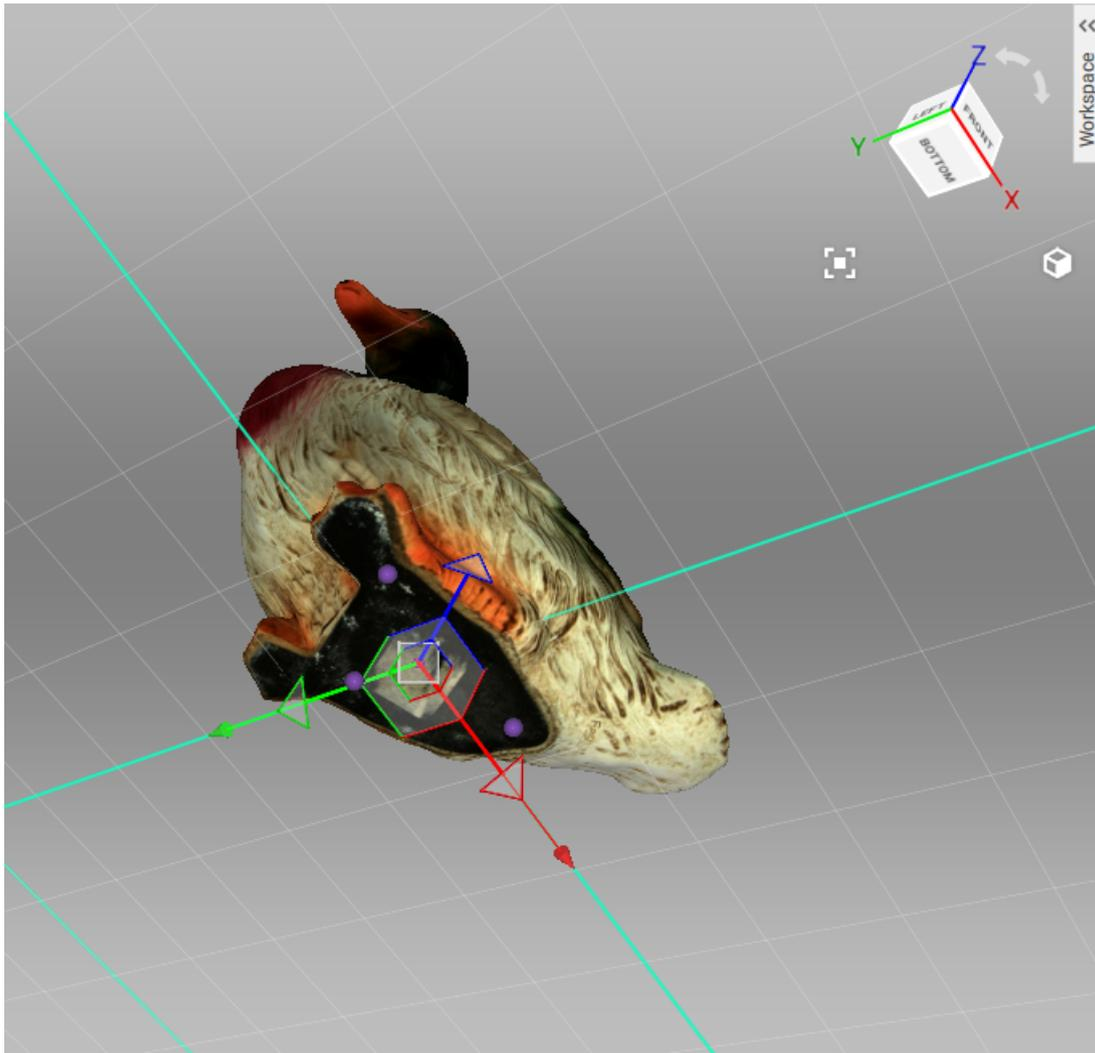

Figure 101: Positioning the model in the global coordinate system.
4. Use *LMB* to specify at least three points on the surface; the plane will automatically pass through their center of mass (see Figure 101). The following conditions will then apply: